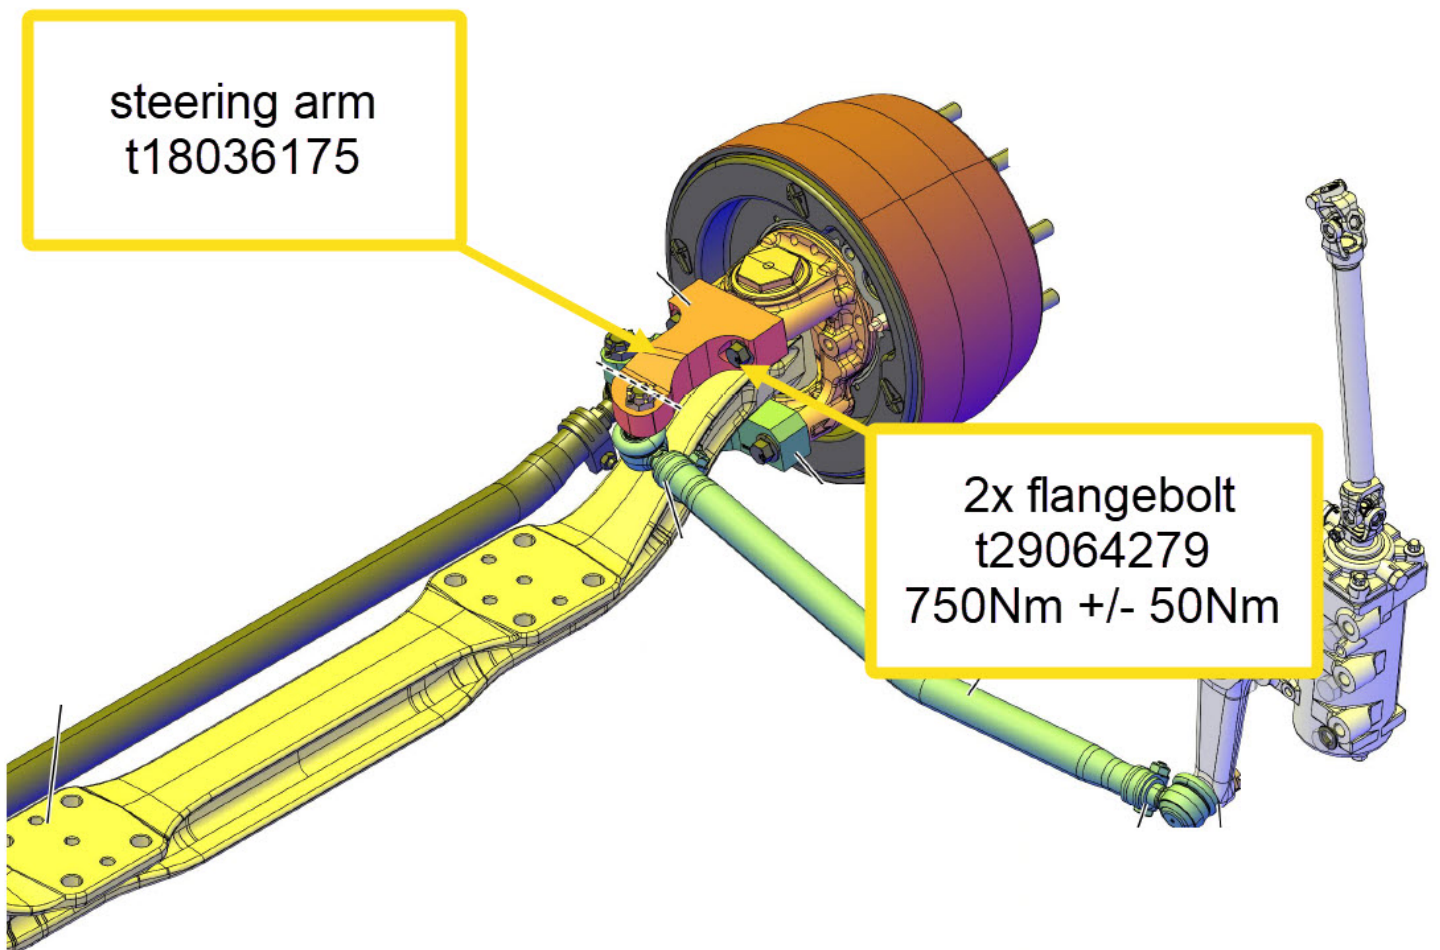

figure 1, steering arm and bolt positions
7. Remove the 2 bolts that connect the upper steering arm, see figure 1, to the left hand side steering knuckle.